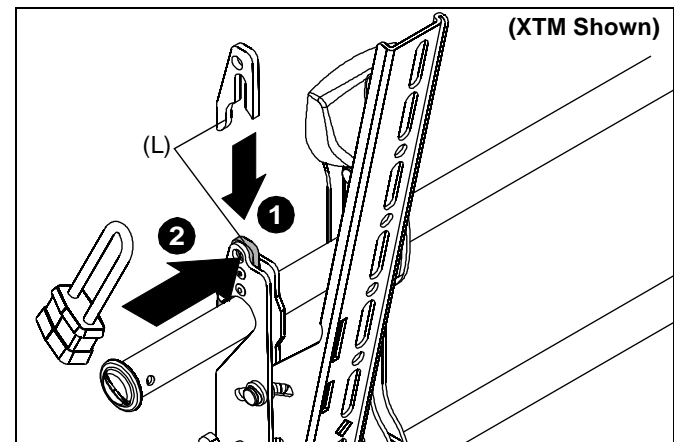

Figure 12
1. Add optional security bracket (L) to the mount. (See Figure 12)